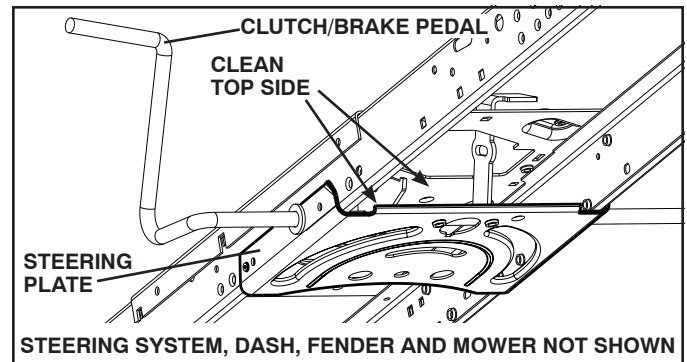

Fig. 21
- Clean debris from steering plate. Debris can restrict clutch/brake pedal shaft movement, causing belt slip and loss of drive. See Fig. 21.